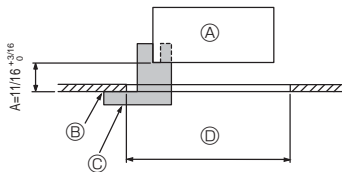
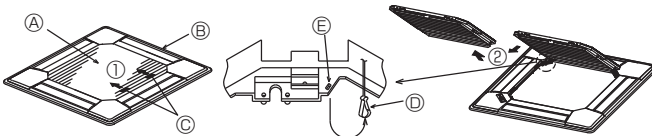
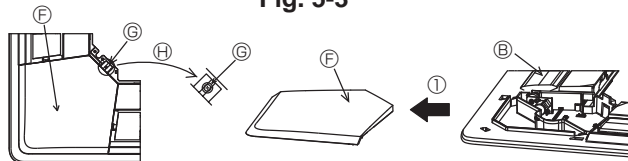

Fig. 5-2
Fig. 5-3
Fig. 5-4
①	Grille	1	950 x 950 (mm), 37-3/8 x 37-3/8 (inch)
②	Screw with captive washer	4	M5 x 0.8 x 25
③	Gauge	1	(Divided into four parts)
④	Fastener	3
⑤	Screw	4	4 x 8
⑥	Screw	1	4 x 12
5.2. Preparing to attach the grille (Fig. 5-2)
- With the gauge ③ supplied with this kit, adjust and check the positioning of the unit relative to the ceiling. If the unit is not properly positioned relative to the ceiling, it may allow air leaks or cause condensation to collect.
- Ⓒ Gauge ③ (inserted into the unit)
5.2.1. Removing the intake grille (Fig. 5-3)
- Slide the levers in the direction indicated by the arrow ① to open the intake grille.
- With the intake grille in the "open" position, remove the hinge of the intake grille from the grille as indicated by the arrow ②.
5.2.2. Removing the corner panel (Fig. 5-4)
- Remove the screw from the corner of the corner panel. Slide the corner panel as indicated by the arrow ① to remove the corner panel.
[Fig.5-3, 5-4]